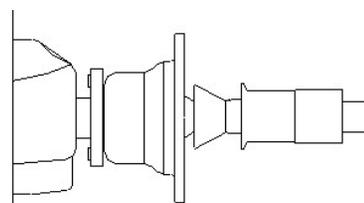

Figure 38 - 2 cones & clamping nut only
3. Place 2 cones followed by the clamping nut (no retainer) onto the shaft. Lift the pedal to clamp. See Figure 38.